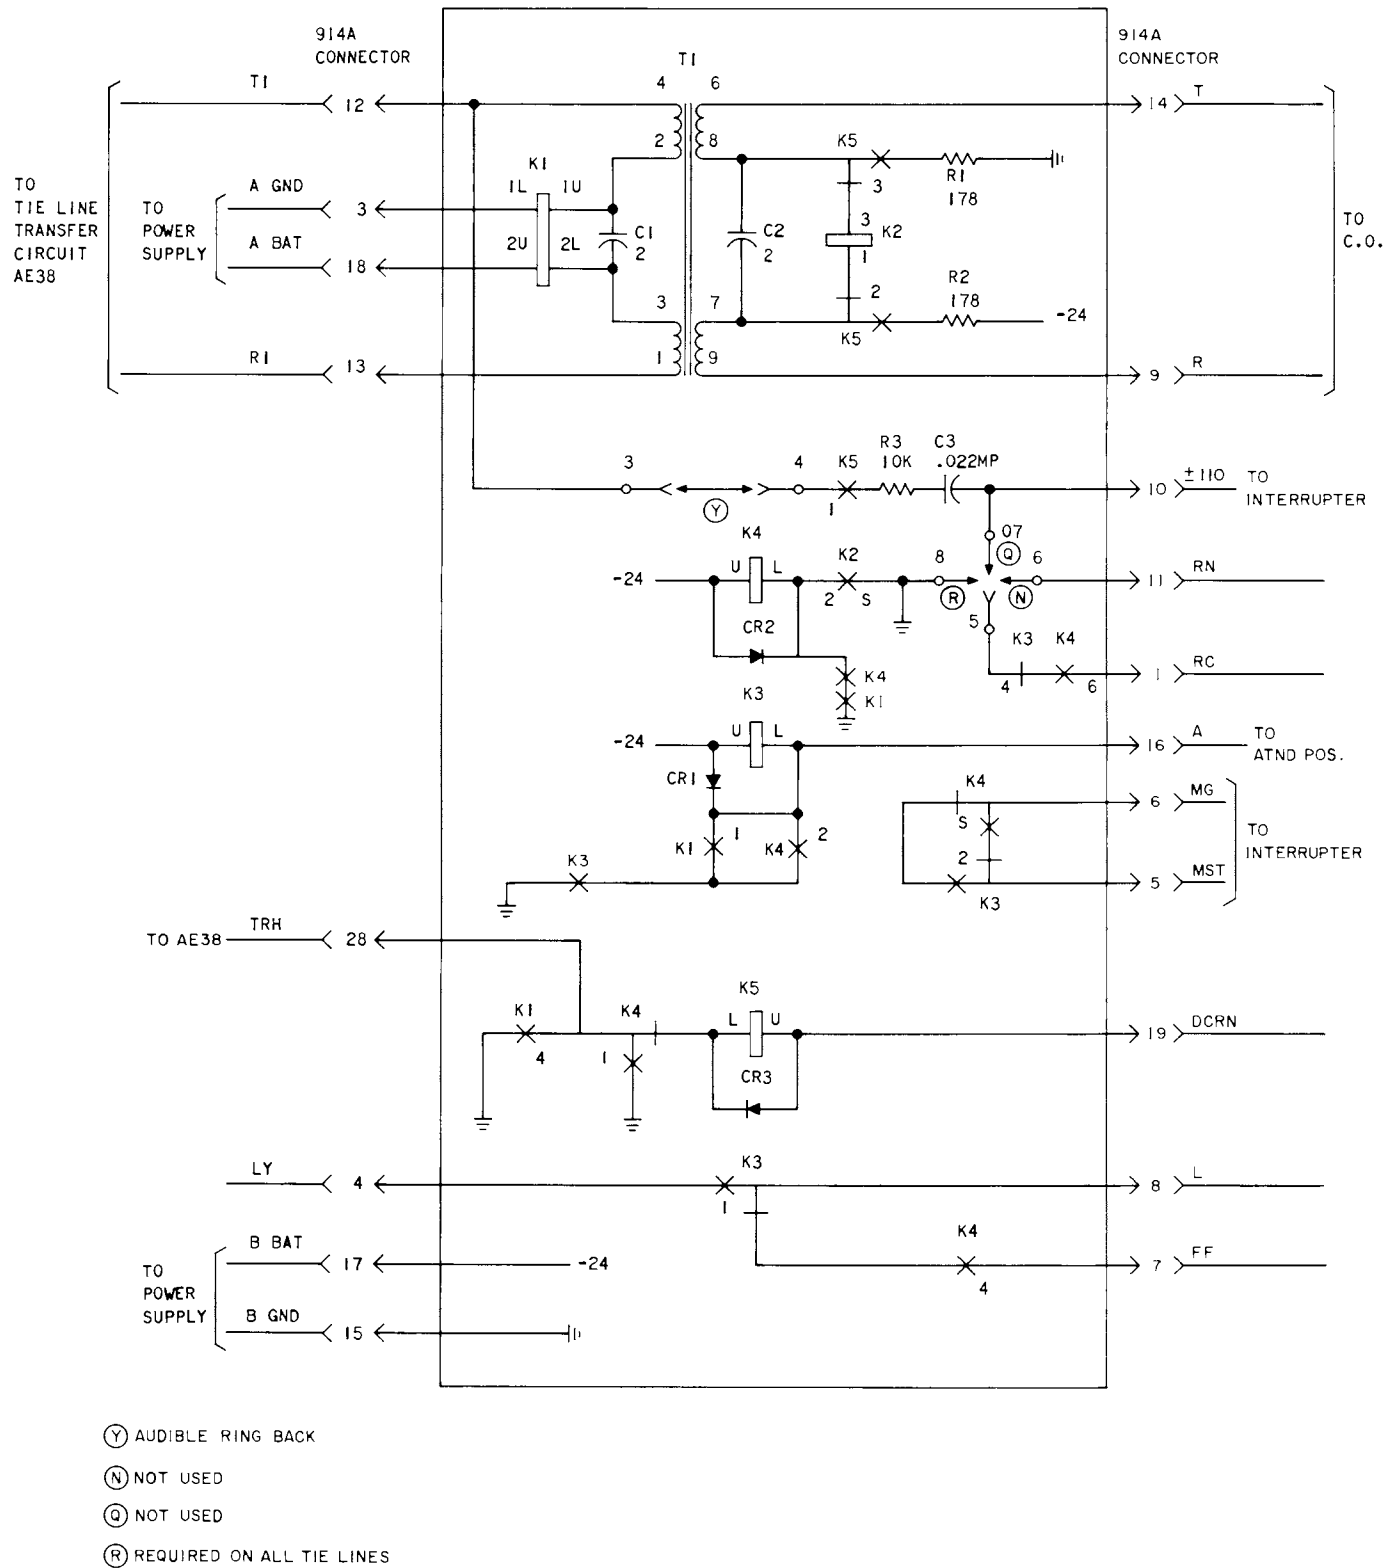

Fig. 9—Condensed Functional Schematic of Circuit Pack AE39 (Tie Line Circuit)
3.06 The AE39 (Fig. 9) provides a 2-way connection between the primary 911 bureau and the agency responsible for providing emergency services. The AE39 also provides -24V talk battery and optional audible ringing to the 911 attendant. One AE39 is required for each tie line.